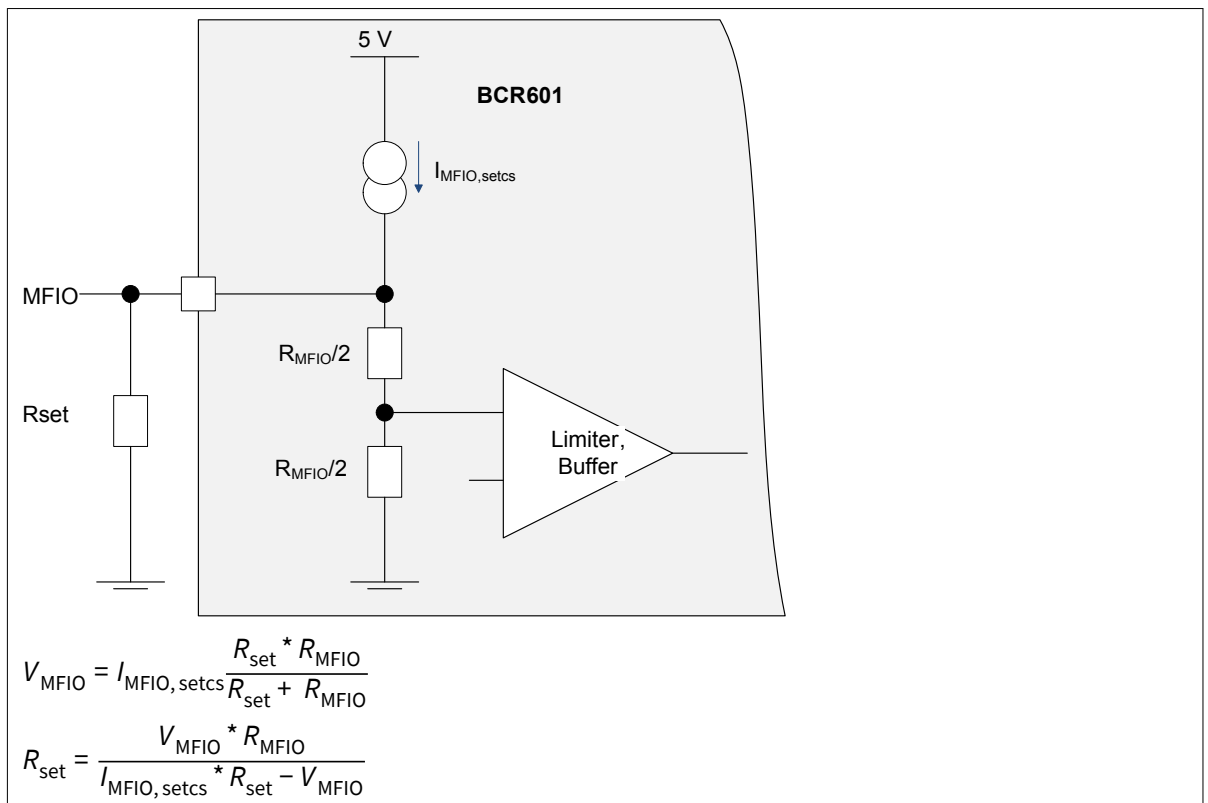

Figure 5 R_{set} dimensioning for resistor dimming
- For analog dimming using R_{set} and internal MFIO current, the internal pull-down has to be taken into account. For proper dimensioning refer to Figure 5.